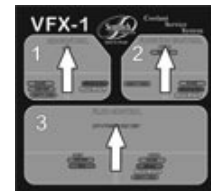

Figure 1
- 3) Verify all VFX 1 Control panel valves are in the neutral position, AIR CONTROL Valve #1, OFF, FUNCTION CONTROL Valve #2, HOLD, and FLUID CONTROL Valve #3, OFF. (Fig 1)